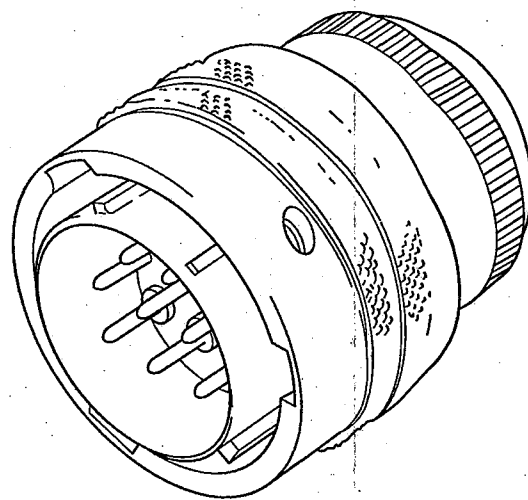

Fig 12 466 Straight plug, general view
11.1 The 466 straight plug (Fig 12) is a free unit with crimped type contacts and conforms to MS3126 specification.